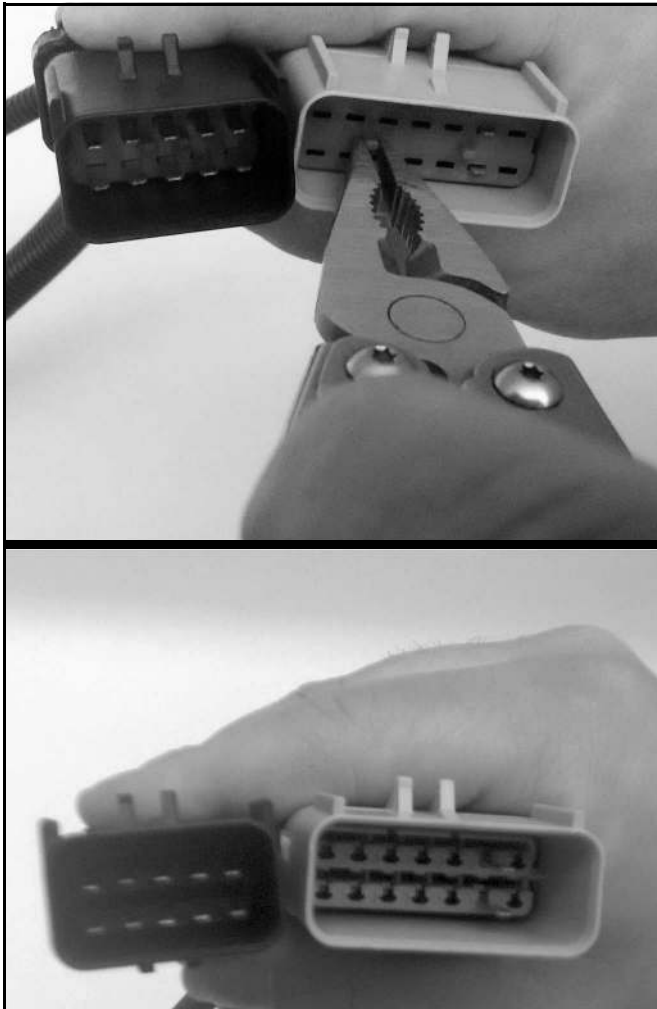

Figure 1
2. Using needle nose pliers, pull out the Red secondary locks in the Black and Gray male connectors of both harnesses. (See Figure 1.)